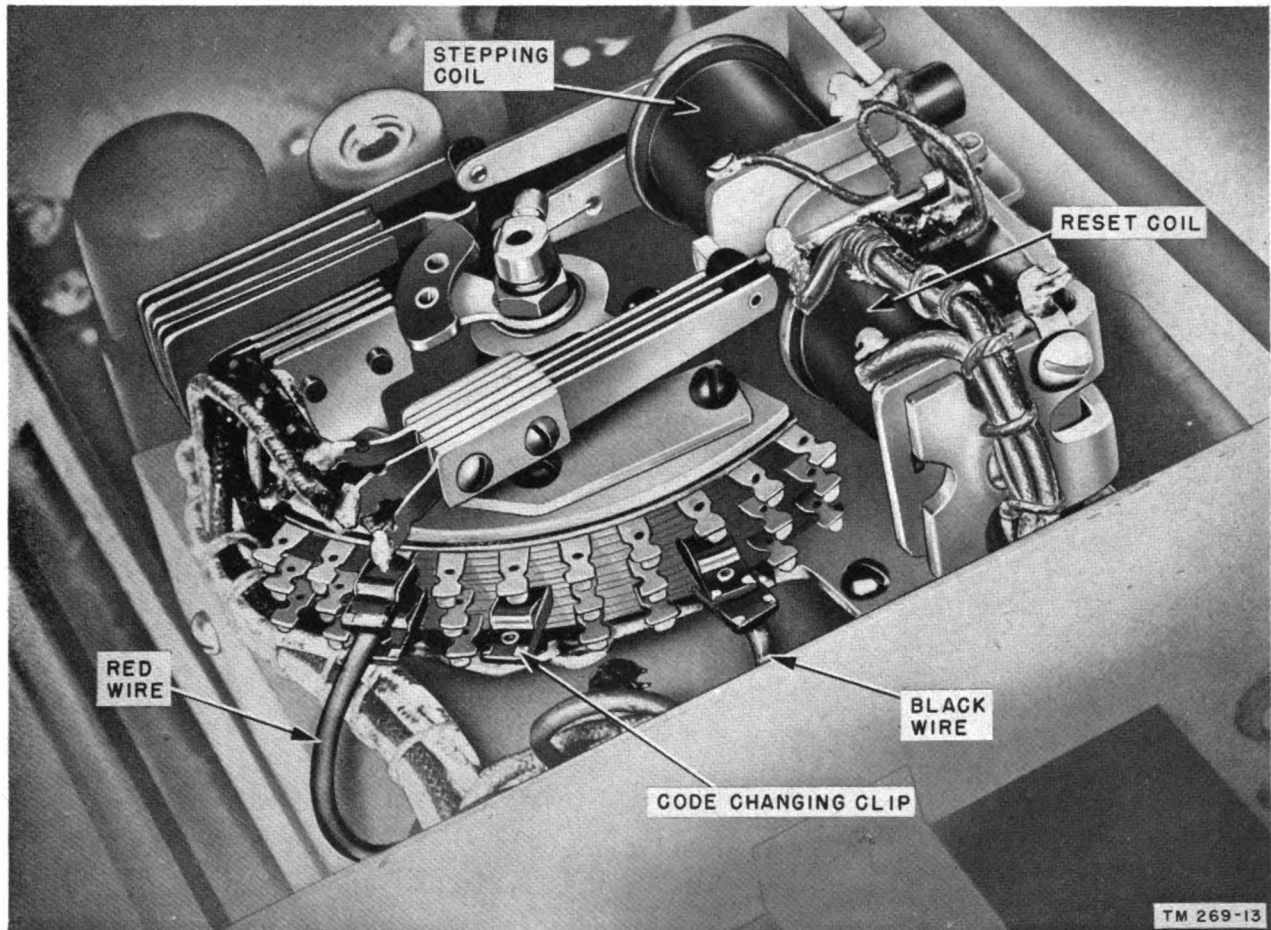

Figure 13. Receiver, code selector switch.
- (1) The stepping relay contacts are numbered from 1 to 10 away from the reset coil (fig. 13). The code changing clip attached to the red wire is always connected to the top bank of contacts, and the clip attached to the black wire is always connected to the bottom bank of contacts. A code number such as 863 is set up as follows:
- (a) Set the clip attached to the red wire on terminal 8 of the top bank of contacts (fig. 13).
- (b) Set the clip attached to the black wire on terminal 3 of the bottom bank of contacts (fig. 13).
- (c) Finally, set the three clips not attached to wires on contacts 8, 6, and 3 of the middle bank of contacts (fig. 13).
- (2) Make certain that the clips are properly placed. The insulated *base* of the clip should be inserted between the upper finger of the contact and the spring finger of the contact as shown in figure 13. When properly inserted, the *metallic* finger on the clip makes contact with the upper finger on the contact.